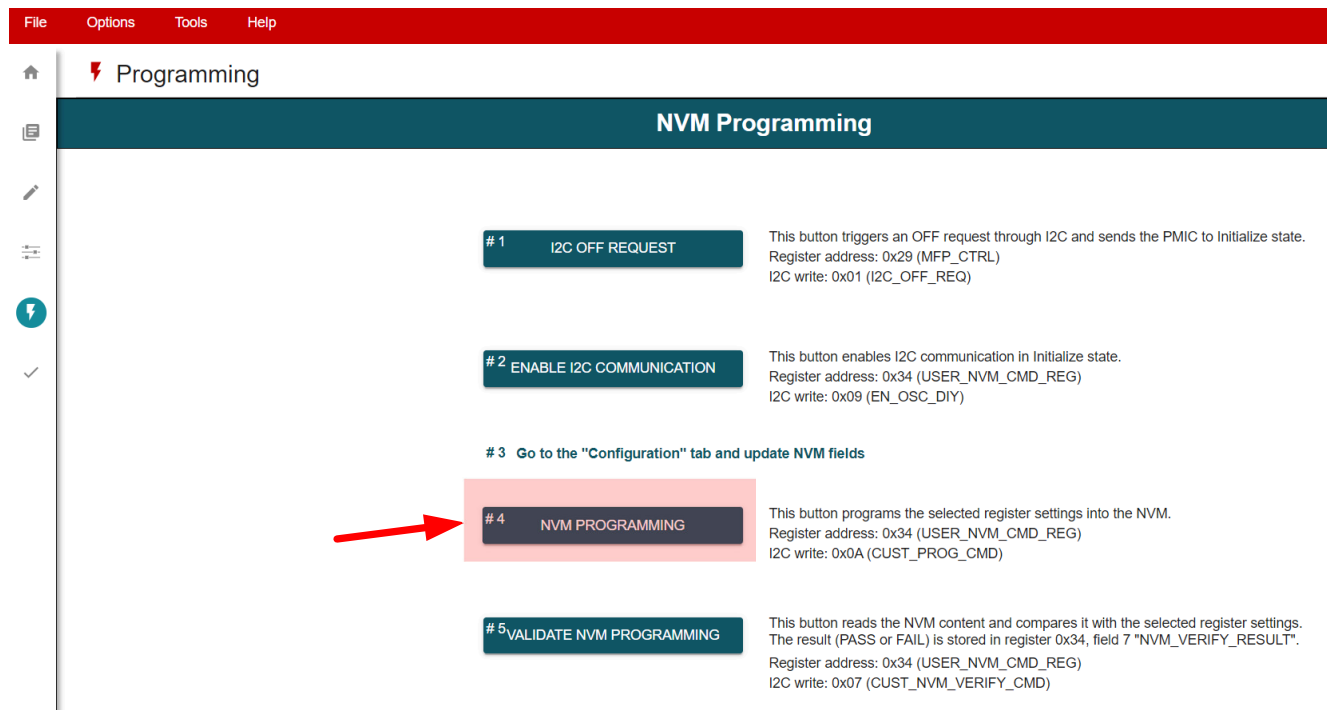

Figure 4-11. NVM Re-programming Using TPS65219-GUI
- Figure 4-11 shows the button that saves the register settings into the NVM when using the TPS65219-GUI.